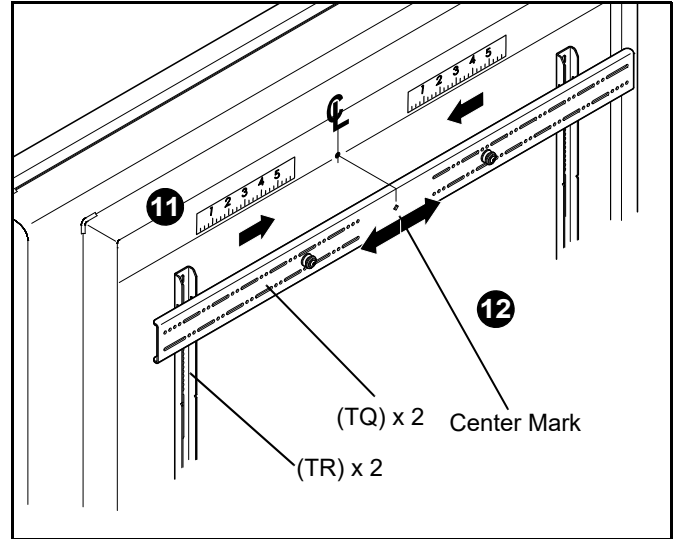
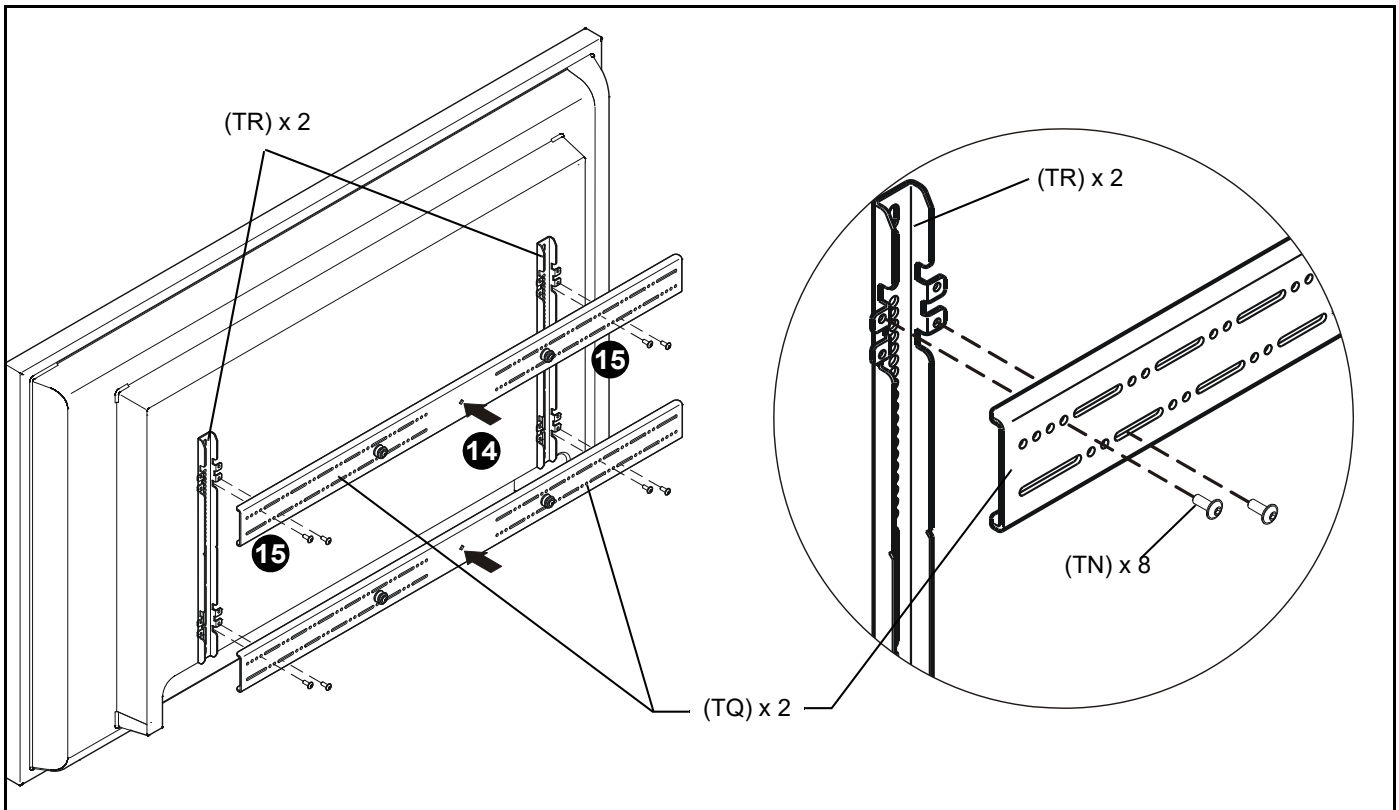

Figure 36
Figure 37
11. Determine and mark the horizontal center position between the Left and Right *TOP* mounting holes in display. (See Figure 36)
12. Determine and mark the horizontal center position between the Left and Right *BOTTOM* mounting holes in display. (See Figure 36)
13. Orient upper horizontal mounting bracket (TQ) so that flanges are facing towards display and resting in recessed area of left and right vertical mounting brackets (TR). (See Figure 36)
14. Adjust Upper horizontal mounting bracket (TQ) position until center diamond in horizontal mounting bracket (TU) aligns with mark made in Step 11, and mounting holes and slots in horizontal mounting bracket (TQ) are aligned with threaded holes in mounting tabs of left and right vertical mounting brackets (TR). (See Figure 36) and (See Figure 37)
15. Use 1/8" hex key (TP) to secure upper horizontal mounting bracket (TQ) to left and right vertical mounting brackets (TR) using four button head flanged screws (TN). (See Figure 37)
16. Repeat Steps 12 through 15 for lower horizontal mounting bracket (TQ).
**IMPORTANT !** : The orientation of, and mounting holes used, when installing the lower horizontal mounting bracket must be the same as the upper horizontal mounting bracket. Vertically align upper and lower brackets by aligning holes or end of slots. (See Figure 37)
**IMPORTANT !** : Whenever possible install mounting screws diagonally as shown in detail in Figure 37.